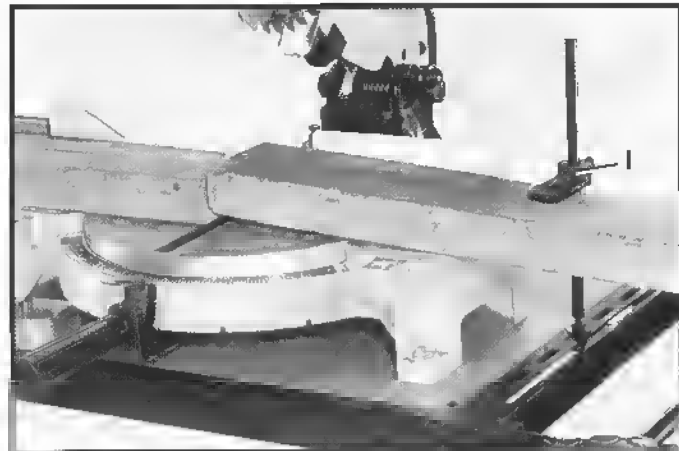

Fig. 45
2. The stock lift inhibitor (I) Fig. 45, is used to prevent the cut-off workpiece from tilting up and falling off the table after it has been cut. It is only effective when the center of gravity of the cut-off piece extends out beyond the roller extension.